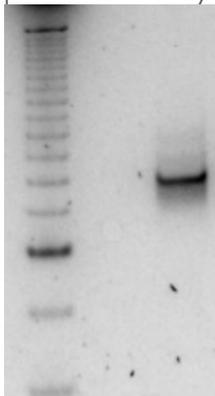

Figure 4. PAGE gel of miRNA-sized library prepared with the QIAseq miRNA Library Kit.
4. Take an image of the gel. A miRNA-sized library is approximately 173 bp, and a piRNA-sized library is approximately 181 bp. Typical results are shown in Figure 4.